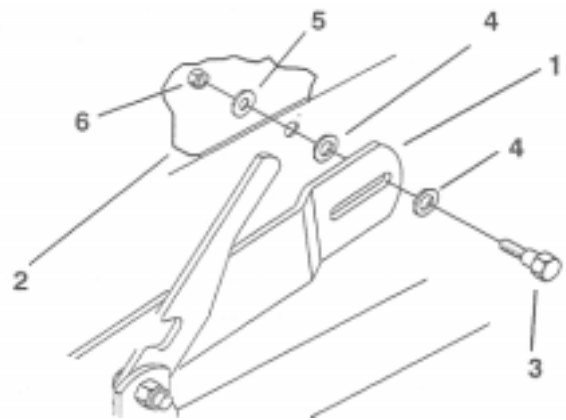

Figure 9
3. Carefully remove the shoulder bolts, 4 thrust washers, flat washers, and a locknut that secures the pivot arm to the pivot brackets or floor boards (Fig. 9).